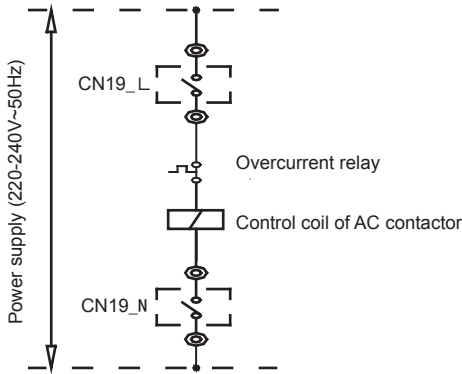

Fig.5-2
- Step 9. Connection of control wires of auxiliary electric heaters: the control wires of AC contactor of the auxiliary electric heater must pass the connection terminals CN19_L and CN19_N of the main unit, as shown in Fig. 5-2.